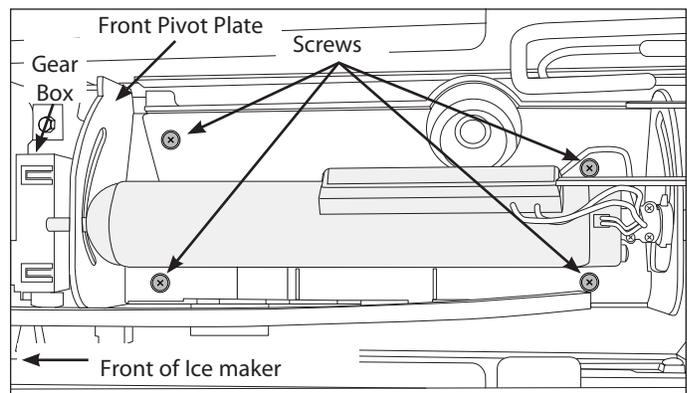

Figure 6-82.
4. Extract the 2 front screws, located just behind the pivot plate in front of the ice mold, that secure the ice mold assembly in position. (See Figure 6-82) The ice mold may need to be moved to provide access to the screws.
5. Extract the back 2 screws just above the back of the ice mold. (See Figure 6-82)